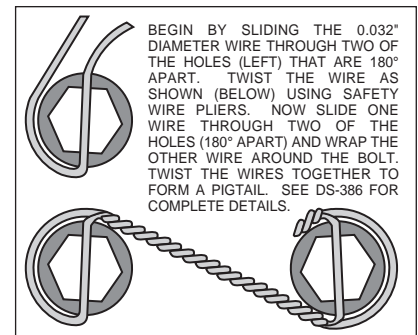

Figure 3. Safety Wire Diagram
- Assemble the rotor (3) to the hat (4) with the bolts (6) and washers (5) provided in the configuration pictured in figure 1. Using an alternating sequence, apply red *Loctite*® 271 to the threads and torque bolts to 155 **in-lb**. For an added measure of security, the bolts may be safety wired using standard 0.032 inch diameter stainless steel safety wire as shown in Figure 3. Please refer to Wilwood's data sheet DS-386 for complete safety wire installation